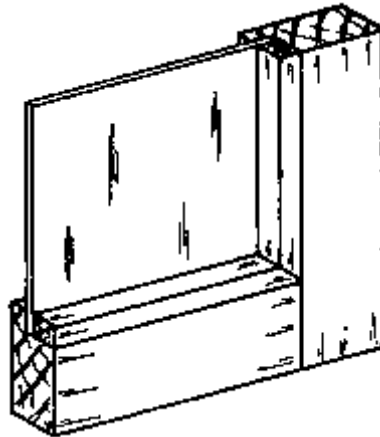

Fig. 1a BEADS
- By using beads, where the casement does not have to be waterproof (Fig. 1a)